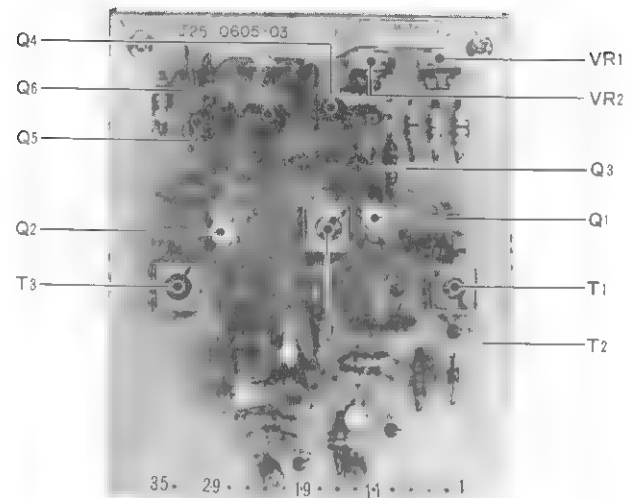

FIGURE 22. IF Board
5.7 IF BOARD (X48-1010-10) (See Figure 22)